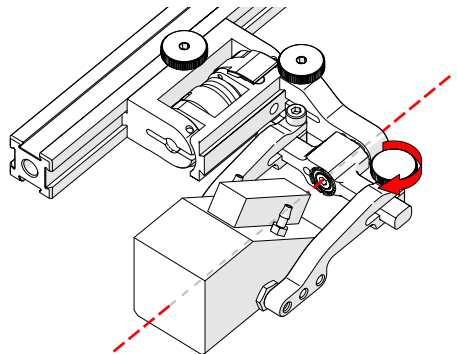

Fig. 157 - Pinch wedge with arm
9. Tighten the probe holder arm adjustment knob (Fig. 157).